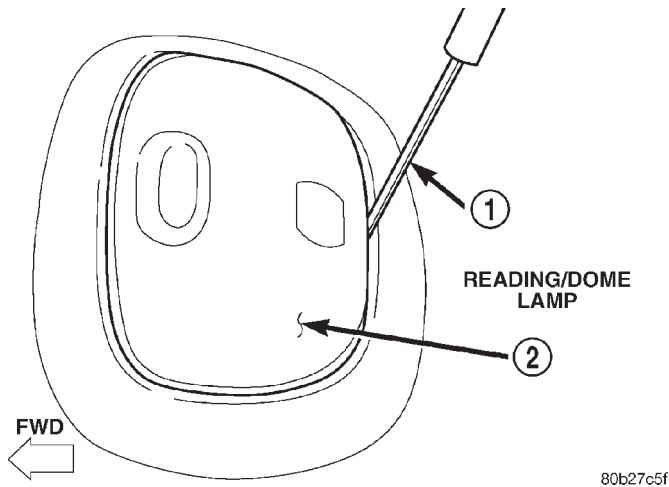

Fig. 12 Lamp Lens
- (1) Using a small flat blade, pry the center rearward edge of the dome/reading lamp lens downward from lamp (Fig. 12).